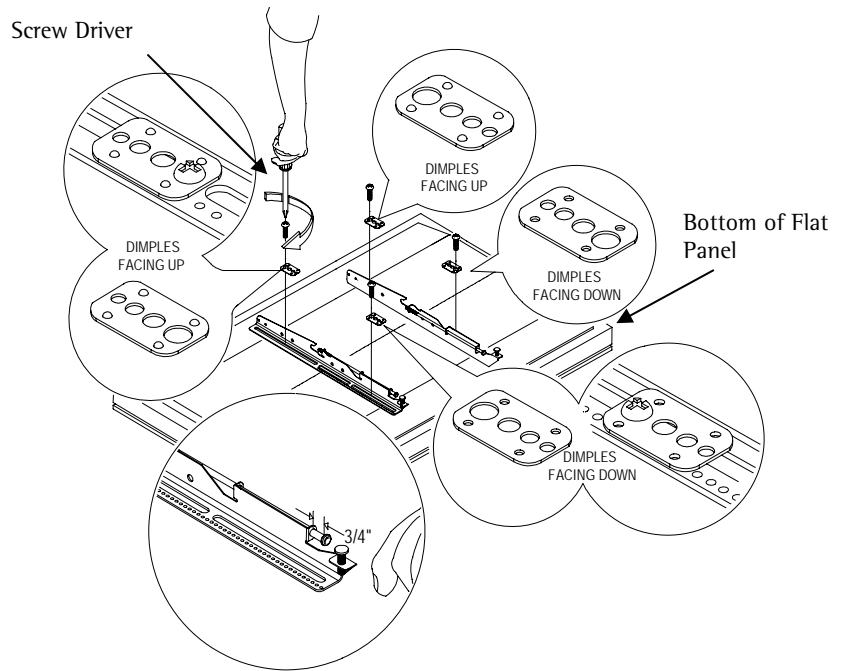

Figure 8
8. Once the mounting brackets are aligned, secure the Griplate™ to the flat panel. Use (1) Griplate™ per mounting point (Figure 8).